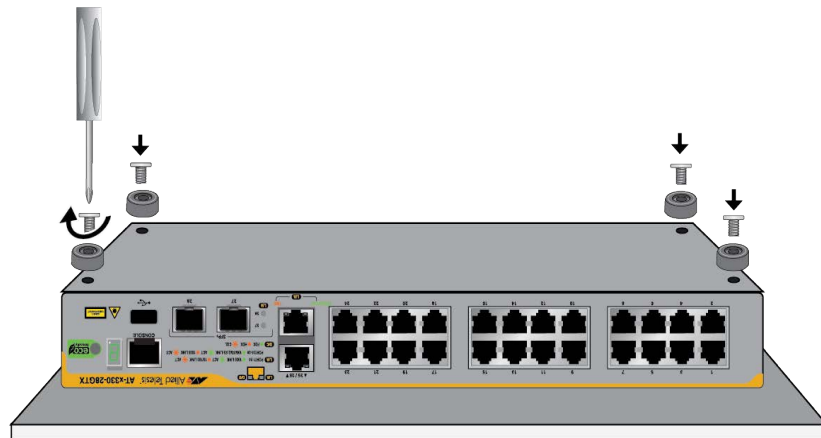

Figure 36. Attaching the Bumper Feet
5. For the x330-10GTX, x330-20GTX, and x330-28GTX Switches, attach the four bumper feet to the bottom corners of the switch using the four 3x4.5mm screws and a Phillips-head screwdriver. Refer to Figure 36.